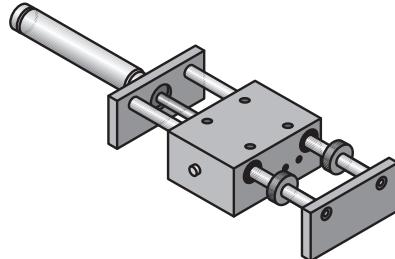

Figure Q3
3. The linear thruster shown in Figure Q3 moves the work-table of a computer-controlled milling machine.